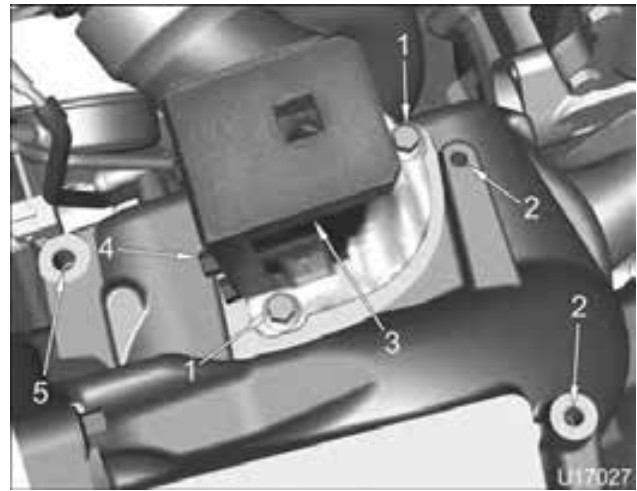

Figure 137 Puller bracket, EGR valve mounting bolts, and tapped holes for puller supports
3. Bushing	7. M6 x 25 bolt (2)	11. M10 washer (3)
4. Puller upper plate	8. M6 x 35 bolt (4)	12. M10 x 25 bolt (3)
5. Position puller support-2 over M6 tapped holes (Figure 137) in manifold mixer and install two M6 x 25 bolts. Tighten M6 x 25 bolts to standard torque (page 457).
6. Position puller support-1 over M8 tapped hole (Figure 137) in manifold mixer and install M8 x 30 bolt. Tighten M8 x 30 bolt to standard torque (page 457).